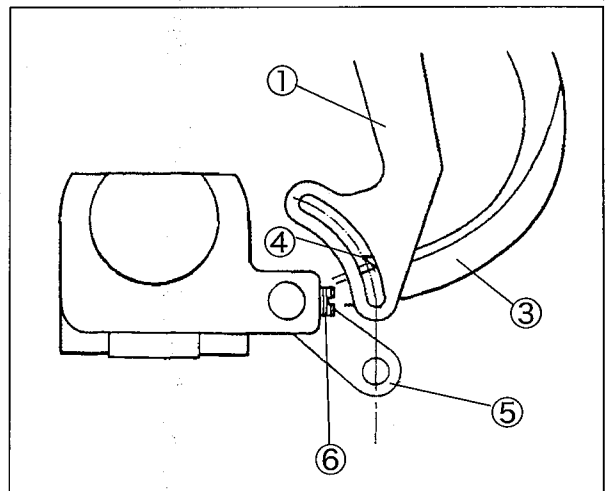

Fig. 48
- (1) Loosen the screw ⑥ of the top cover thread eyelet ⑤. (Fig. 48)
- (3) Set the eye of the top cover thread eyelet ⑤ along the extending line from the slot of the top cover thread guide ①. (Fig. 48)
- (4) Tighten the screw ⑥ securely. (Fig. 48)